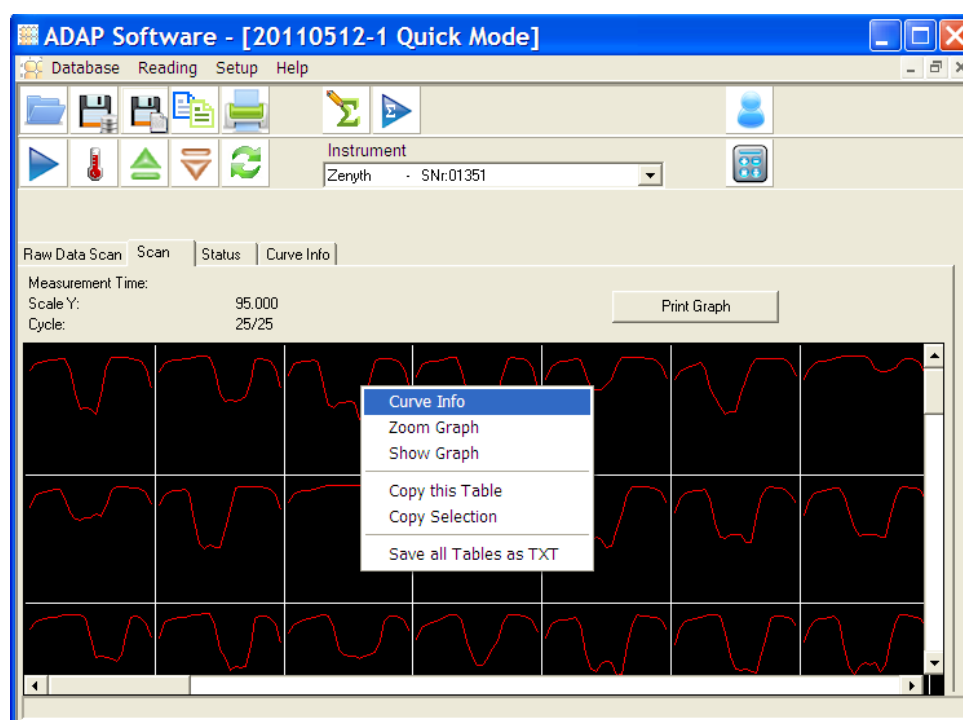

Figure 7-25: Curve Info copy options
Measurement results displayed in Curve Info tables may be copied and pasted using the copy options built into the Curve Info tab (Figure 7-25).
1. Right click on a results table. A menu with print, copy, and text file options appears (Figure 7-25).
2. Right click on a results table. A menu with print, copy, and text file options appears (Figure 7-25).